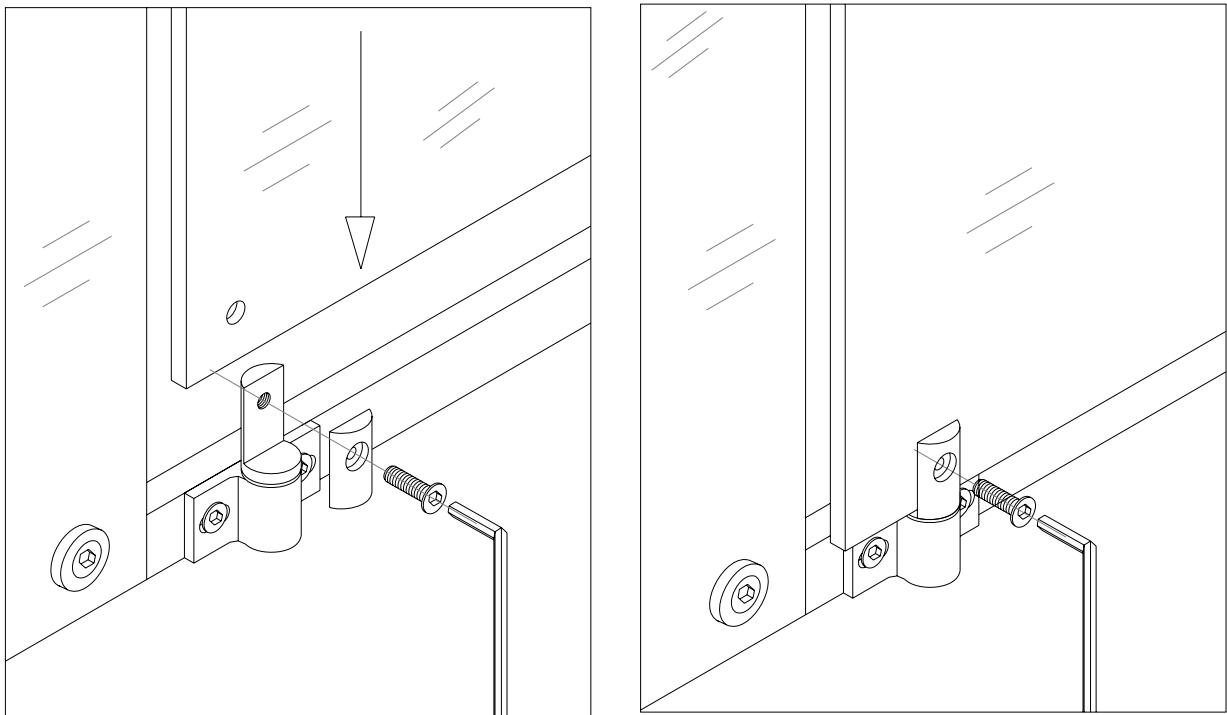

Fig 6
7. Remove the back fastener from the pivot assemblies. Set the door so the holes are aligned. Make sure the rubber gaskets are in between the glass and the metal parts. Secure the back fastener with the provided bolt. Repeat the same steps for the second pivot assembly (Fig 6).